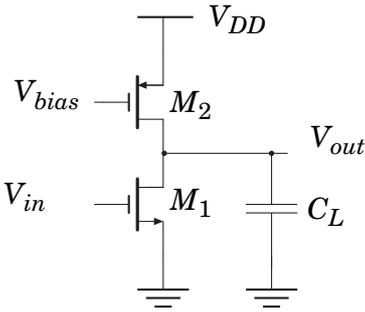

Figure 5.2 A basic building block.
- Derive the power supply rejection ratio from the positive power supply of the amplifier shown in Figure 5.2. Neglect the influence of the capacitive parasitics. (3p)
- Why do we design the transistors in Figure 5.2 to operate in the saturation region? (1p)